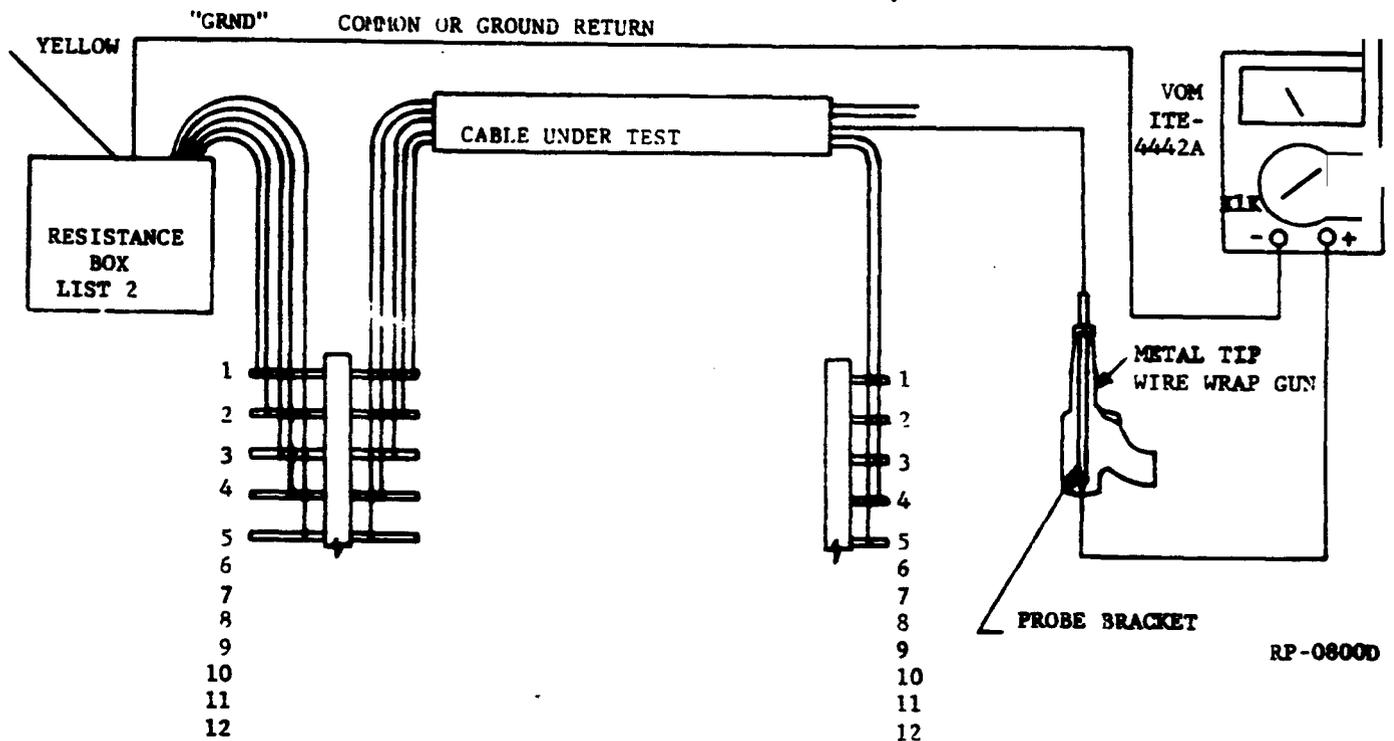

FIG. 9
9.242 If a wire-wrap gun is to be used, use List 2 and connect the extension probe bracket to the gun tip, as per FIG. 9, using the wrench provided.